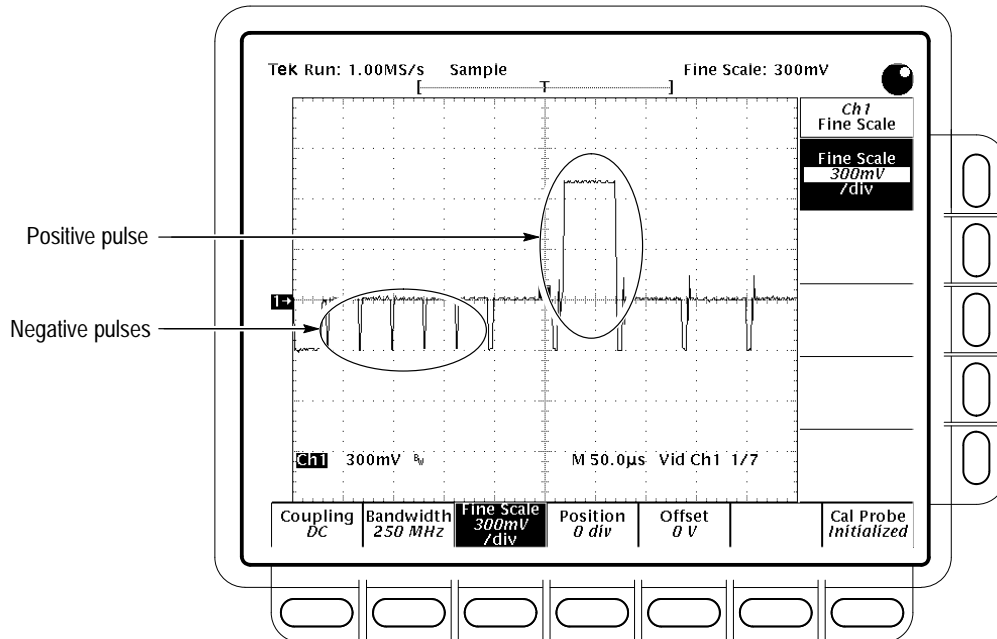

Figure 1–28: Triggered Signal Range Test – 300 mV
- m. CONFIRM that the **TRIG'D** LED stays lighted and that the waveform on screen is stable. That is, it does not move horizontally or vertically. Also, CONFIRM that the waveform on the screen has one positive pulse and a number of negative pulses. See Figure 1–28.
- o. CONFIRM that the **TRIG'D** LED stays lighted and that the waveform on screen is stable. That is, it does not move horizontally or vertically. Also, CONFIRM that the waveform on the screen has one positive pulse and a number of negative pulses. See Figure 1–29.